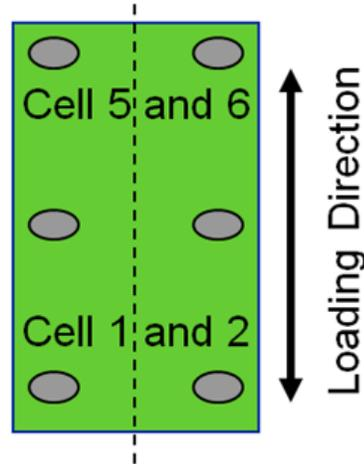

Figure 2-2: Axial Loading
- For applications where cells are arranged linearly, and the load is applied across a pair of cells at a time (e.g. vehicle weighing, rail scales), radial symmetry monitoring may not yield accurate results and should not be used (Figure 2-2). In these applications, Axial Symmetry Monitoring should be used. Note that Axial Symmetry Monitoring is not available in the IND560 PDX.